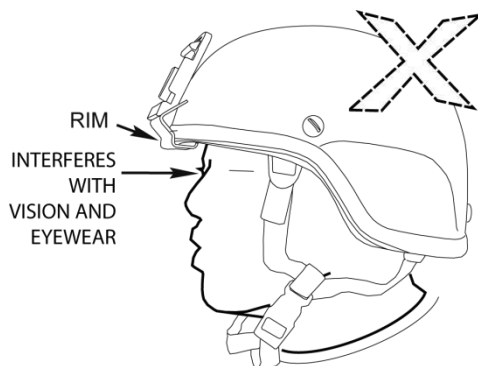

Figure 5. Helmet Too Low — Interferes with Vision.
1. Evaluate whether the helmet interferes with vision or is incompatible with eyewear as shown in Figure 5.